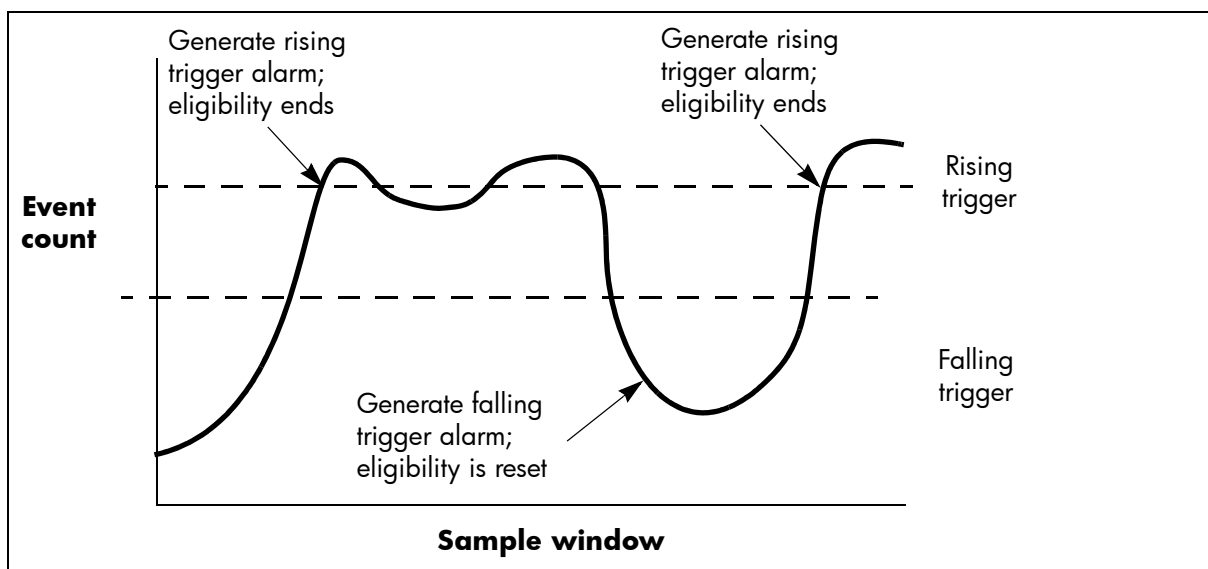

Figure 34 Port threshold alarm example
6. Enter a value for the rising trigger. A rising trigger alarm is generated when the event count per interval exceeds the rising trigger. The switch will not generate another rising trigger alarm for that event until the count descends below the falling trigger and rises again above the rising trigger. Consider the example in Figure 34.